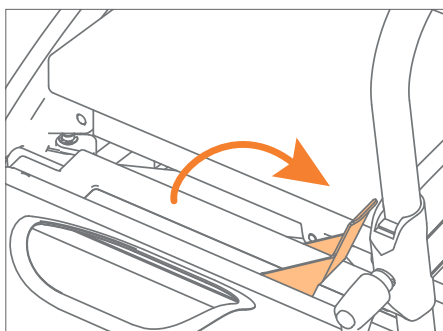

Figure 51: Unlocking the wheelchair package.
- Pull up the red handle without force. This will unlock the wheelchair package and retract the locking bolts **(Figure 51)**.